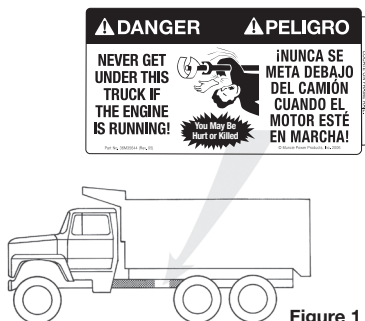

Figure 1
The two (2) Truck Frame Labels, which measure approximately 4" x 8", are to be placed on the outside of the vehicle frame rail. These labels are to be easily seen by anyone who might go under the truck or near the FA6B PTO. One label is to be placed on each side of the vehicle. See Figure 1.